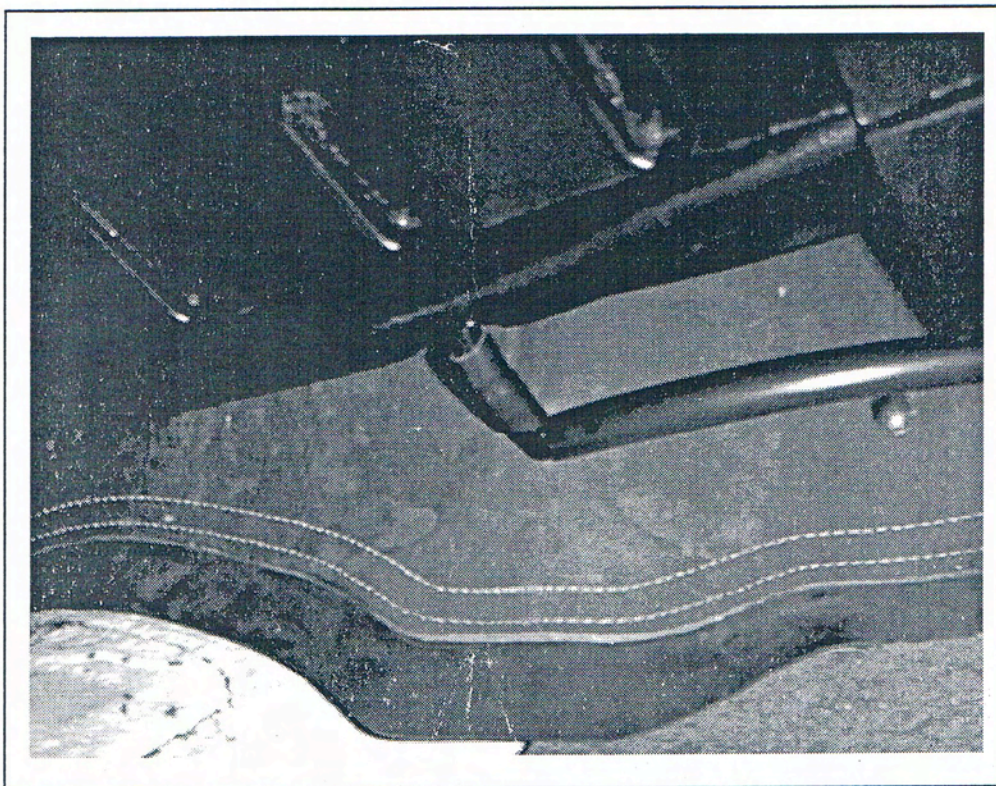

FIGURE 11
32. Install drain hose using 90° elbow fittings. (FIGURE 11)